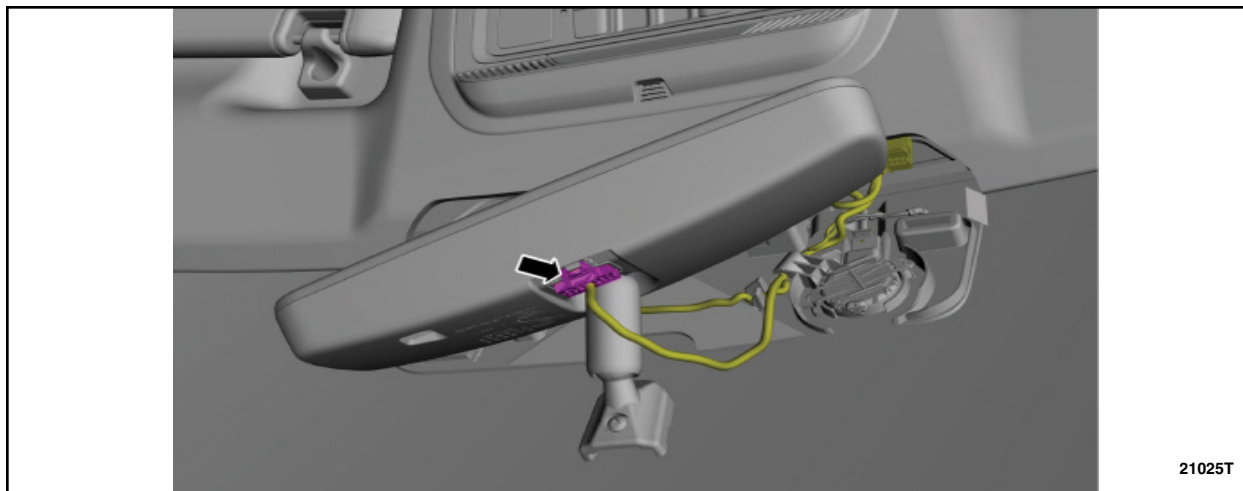

FIGURE 11
11. Disconnect the electrical connector and unclip the wiring harness. See Figure 11.